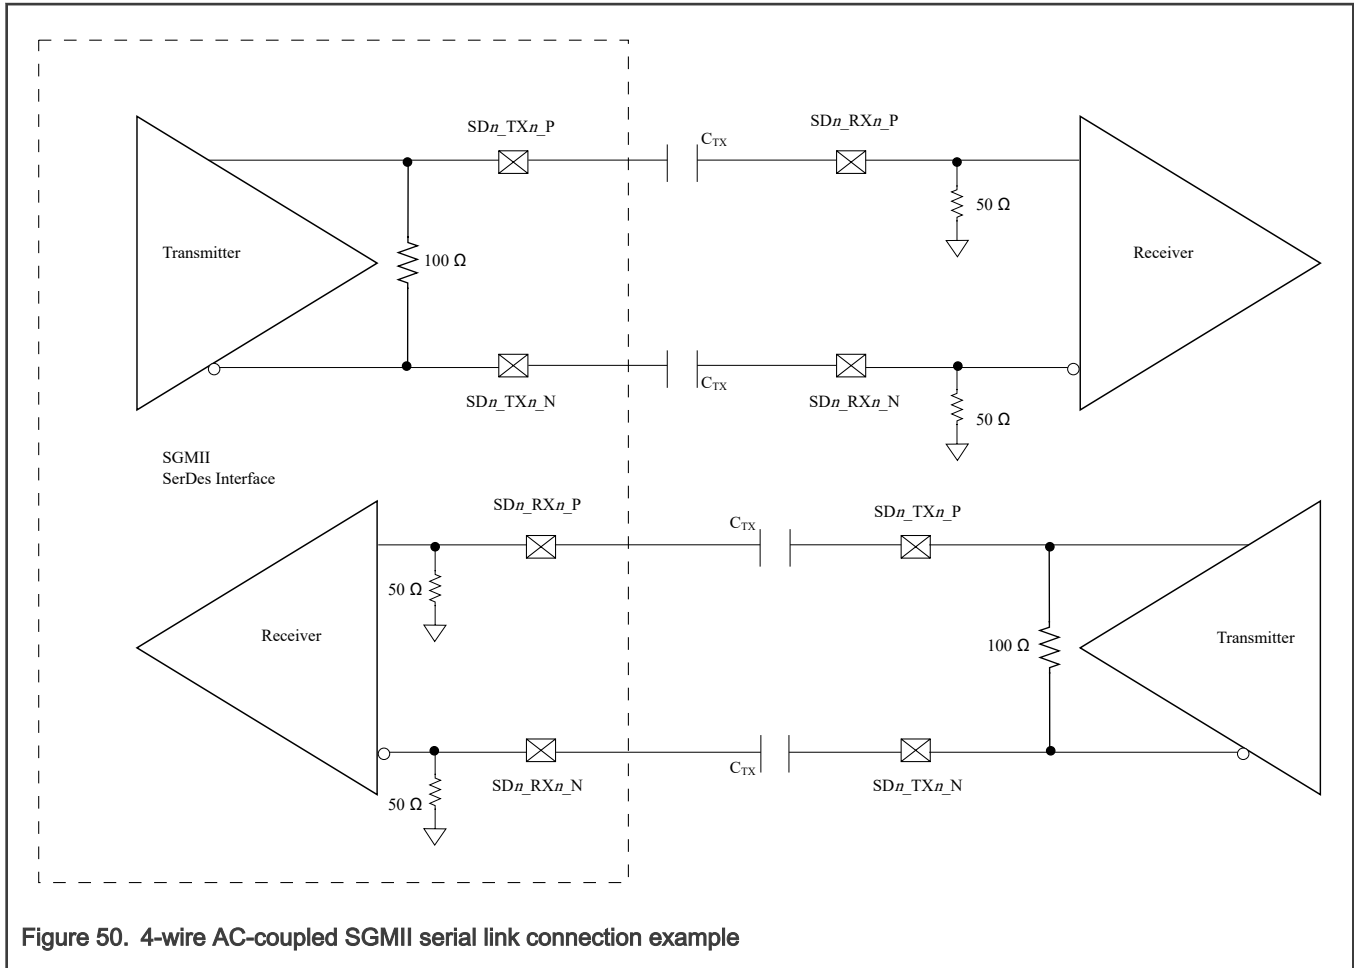

Figure 50. 4-wire AC-coupled SGMII serial link connection example
Each SGMII port features a 4-wire AC-coupled serial link from the SerDes interface of the chip, as shown in Figure 50, where  $C_{TX}$  is the external (on board) AC-coupled capacitor. Each SerDes transmitter differential pair features 100-Ω output impedance. Each input of the SerDes receiver differential pair features 50-Ω on-die termination to XGND $_n$ . The reference circuit of the SerDes transmitter and receiver is shown in figure *SerDes transmitter and receiver reference circuits*.
12. See Figure 50.